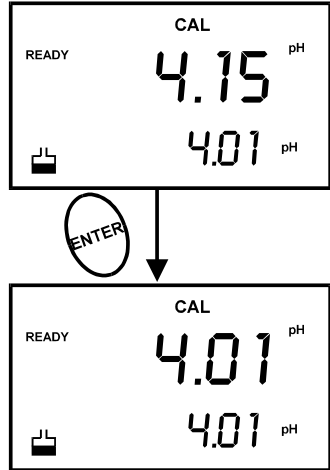

Figure 6 - Next point calibration for pH 4.01
8. Follow steps 5 to 8 for additional calibration points. See Figure 6.